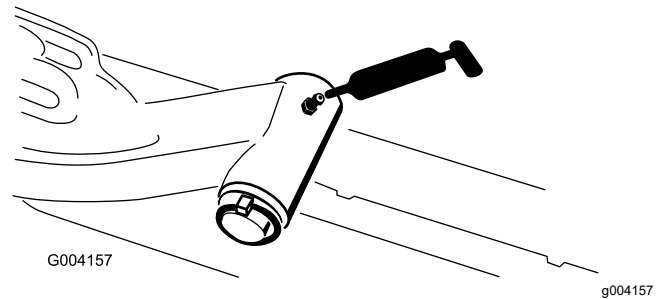

Figure 74
- Lift-arm pivot shaft (1 each)—Figure 74